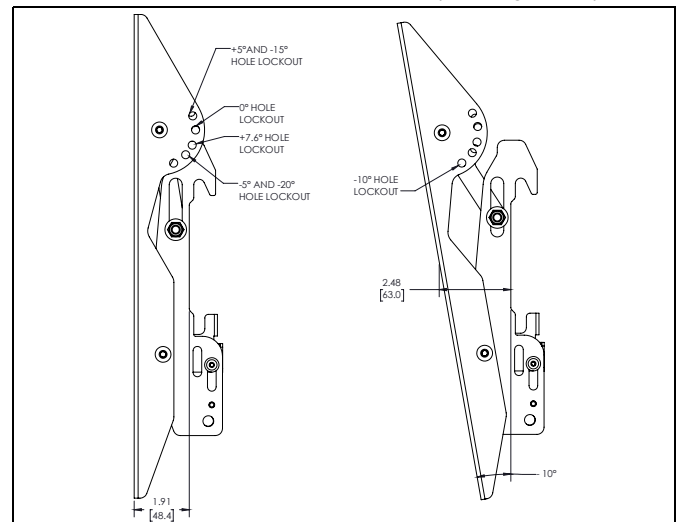
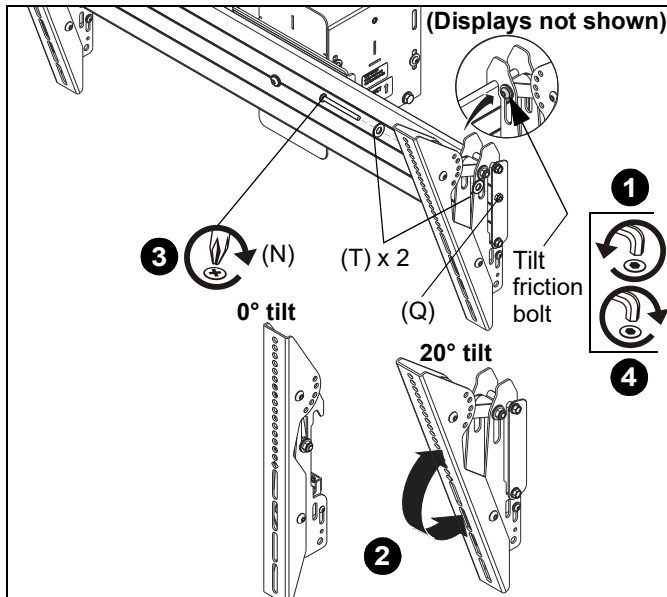

Figure 19
Figure 20
The interface brackets allow -7.6° to 20° tilt, and can be locked at -7.6°, -5°, 0°, 5°, 10°, 15° and 20° tilt. (See Figure 19)
1. If necessary, loosen button head tilt friction bolt (located on side of interface bracket). (See Figure 20)
2. Adjust tilt as required. (See Figure 20)
3. The tilt may be locked at -7.6°, -5°, 0°, 5°, 10°, 15° and 20° using one 1/4-20 x 2" Phillips head screw (N), one 1/4-20 lock nut (Q) and one 1/4" washer (T) per interface bracket. (See Figure 19) and (See Figure 20)